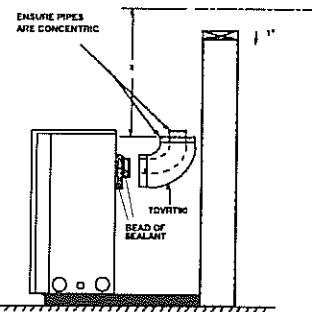

Fig. 28
(Fig. 28) Apply a bead of high temperature sealant to the inner and outer flue collars of the fireplace and using appropriate venting component(s) attach to fireplace with three (3) screws. Follow with the installation of the inner and outer elbow. Again secure joints with three (3) sheet metal screws. Wipe off any excess high temperature sealant.